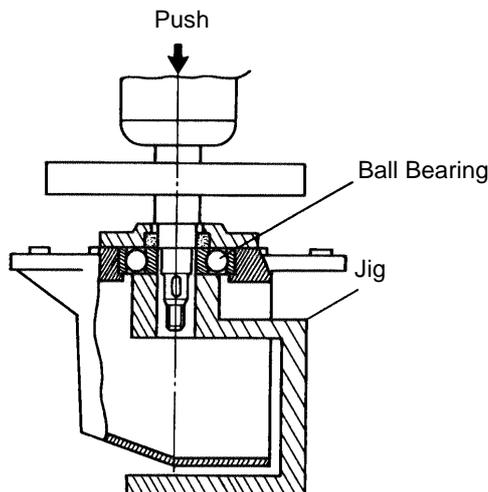

Fig. 5
As illustrated in Fig. 5, support the inner race of the Ball Bearing (42) with a jig, and press the Armature Ass'y (47) down into the Ball Bearing.